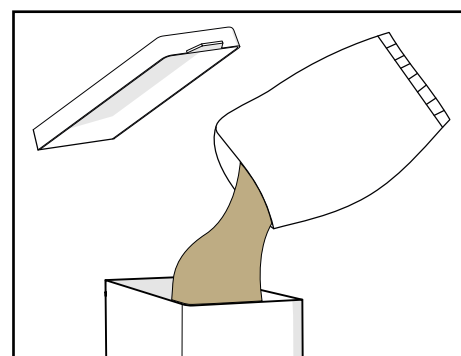

Figure 9.
4. Fill the canisters to **maximum three quarters** of the capacity (see Figure 9).